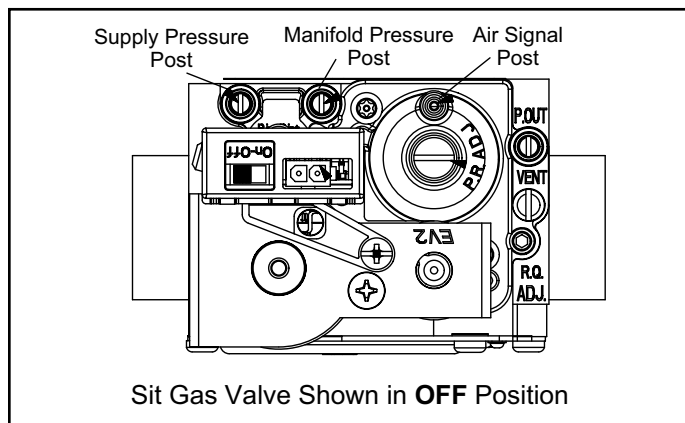

Figure 28. Sit Valve
See Figure 28
6. Move switch on gas valve to **OFF**. Do not force. See Figure 28.
8. Move switch on gas valve to ON. Do not force. See Figure 28.